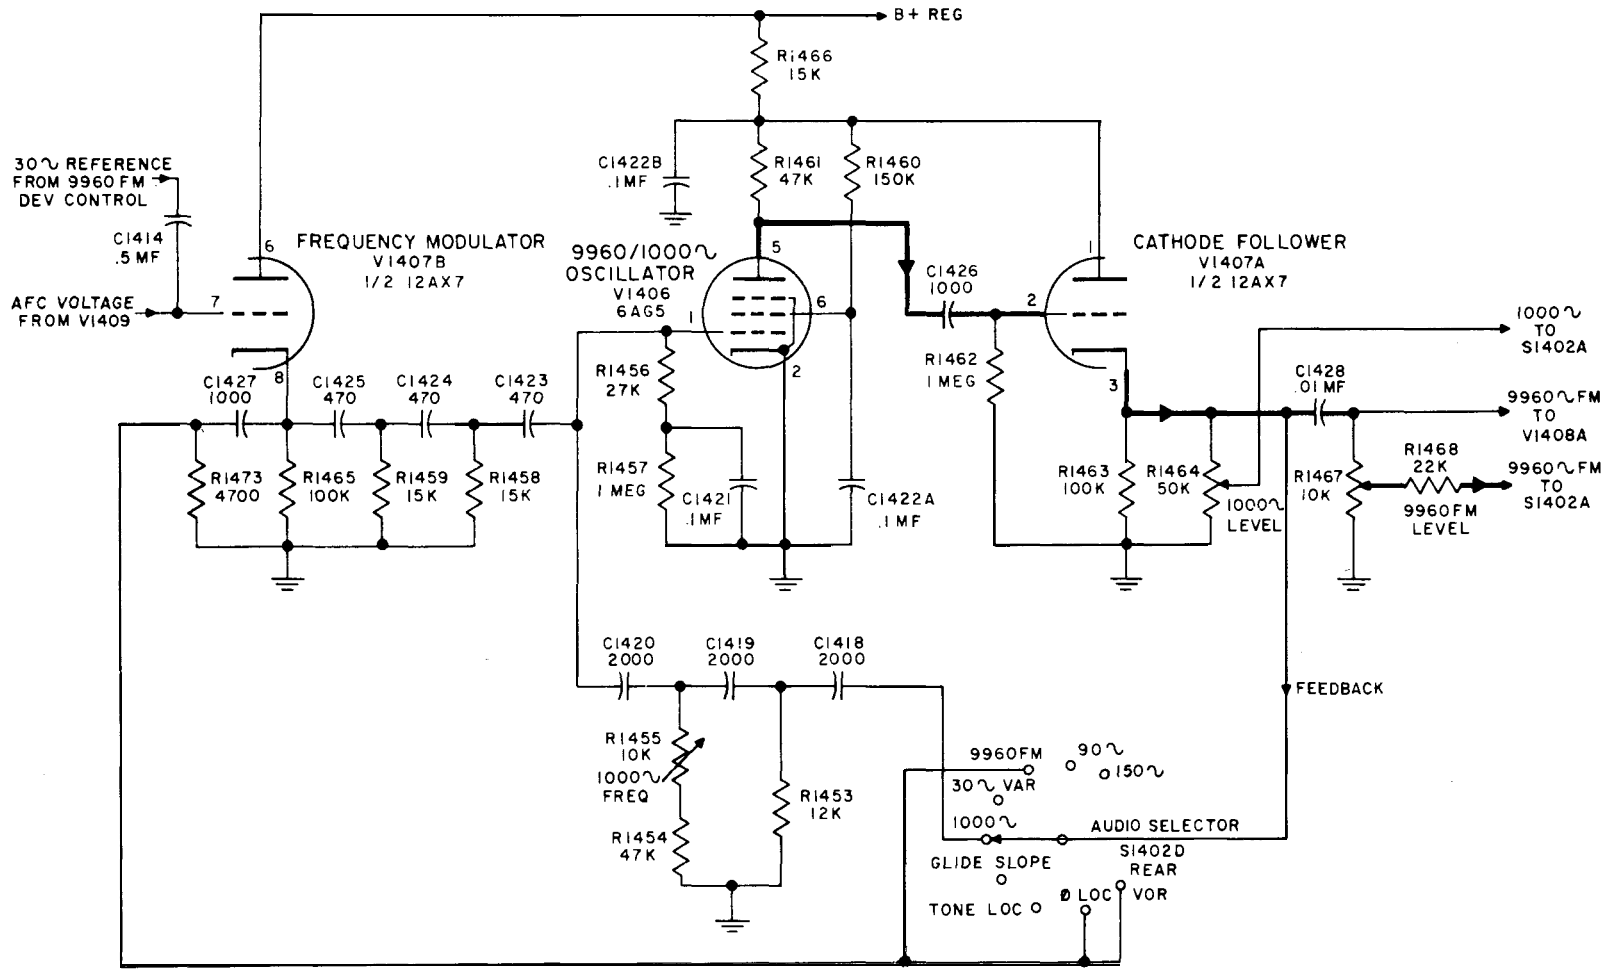

Figure 4-16. 9960 and 1000 CPS Oscillator V1406, Cathode Follower V1407A and Frequency Modulator V1407B, Simplified Schematic
(See figure 4-16.)
tune the secondary to 9960 cps. 9960 FM FREQ control C1434 adjusts the center operating frequency of the discriminator which in turn controls the center frequency of V1406. When V1406 is operating with a center frequency of 9960 cps, the diodes V1409A and B conduct equally and equal but opposite voltages are developed across R1471 and R1472 giving no voltage in the output. When the V1406 frequency decreases, V1409B conducts more heavily than V1409A and a positive afc voltage appears in the output. This positive voltage is filtered by R1474, C1430 and R1475 to remove the 30-cps component and fed to the grid of frequency modulator V1407B (figure 4-16). A positive voltage on the grid of V1407B increases its cathode current or increases its output impedance. Therefore, the frequency of V1406 will decrease so that it oscillates at 9960 cps.
c. TONE LOC. 90 cps and 150 cps from the LOC-GS attenuator are fed to S1402B. Switch section S1402C again grounds the 30 cps variable phase signal and section S1402D (figure 4-16) disables the 9960 cps oscillator.